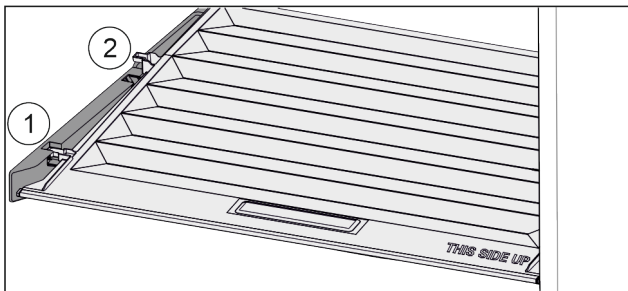

Fig. 120
- ▶ Pull the lid up at the front to the opening in the retaining parts Fig. 120 (1).
- ▶ Lift from the back and pull it up and out Fig. 120 (2).